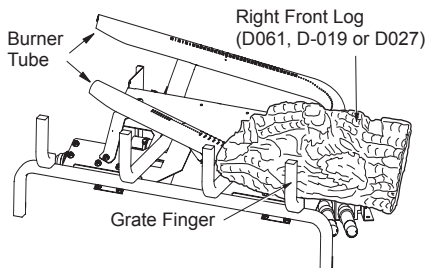

Figure 28 - Installing Right Front Log
1. Find the right front log (LMF36-SC and VFGT24 inch models: D-061 or LMF42-SC and VFGT30 inch models: D-019 or LMF48-SC and VFGT36 inch models: D-027). See Figures 28, 28A, 28B, and 28C for reference. The log has a rectangular shape on the bottom that fits against the lip on the black metal base, the square grate, and the round tube burner. Slide the log in place as shown in Figures.